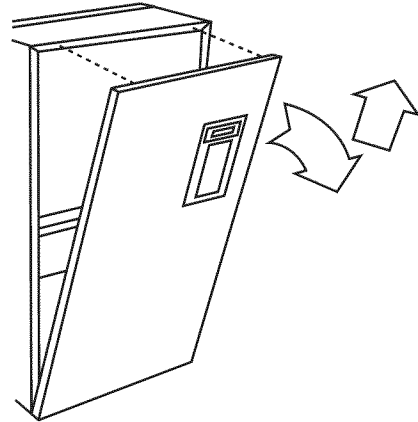

Fig. 19 - Remove Furnace Door
- (1.) Remove main furnace door. (See Fig. 19.)